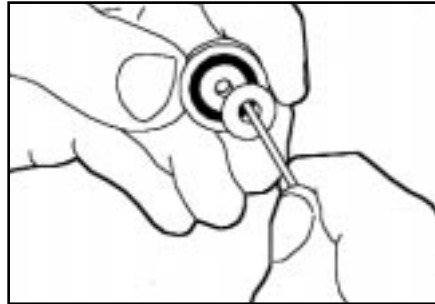

Figure 20
11. P03-6S: Put 7/64" Allen wrench in the holes of the poppet O-ring retainers and pry them off. (Fig.20)
17. P04-6S/8S: Put a 7/64" Allen wrench in the holes of the poppet O-ring retainers and pry them off.(Fig.20)